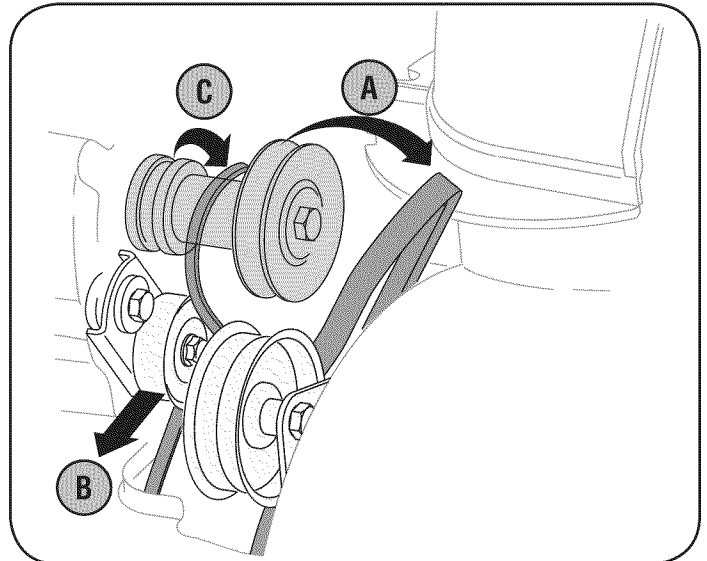

Figure 33
3. Remove the belt from engine pulley as follows. Refer to Figure 33.